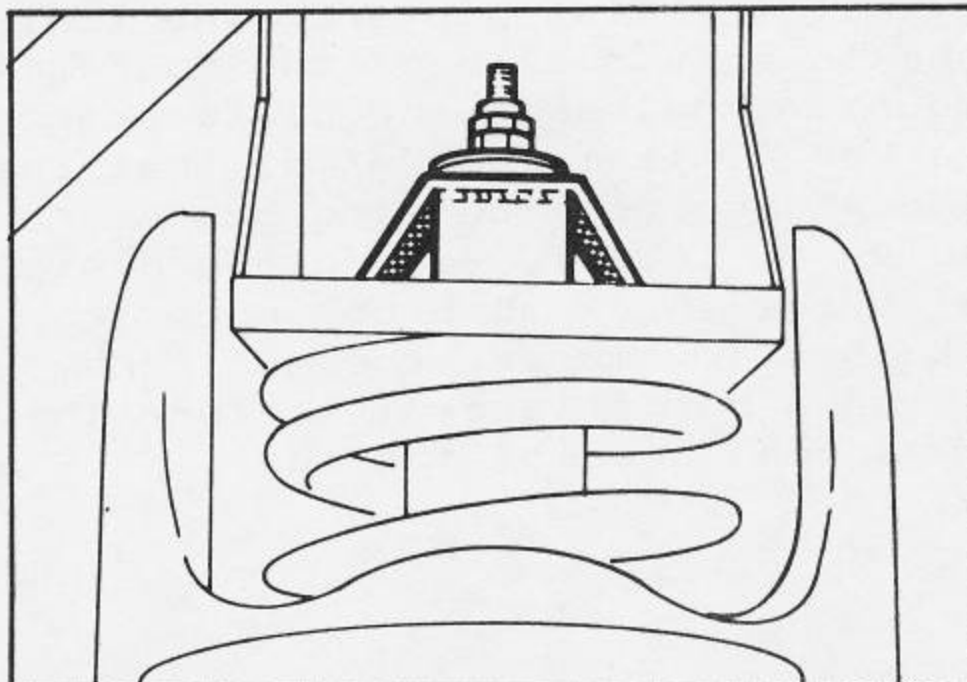

Fig.38 Shock absorber top mount.
3. Remove shock absorber top Fig.38 mounting nut and two bottom mounting nuts. Withdraw shock absorber through lower wishbone arm.